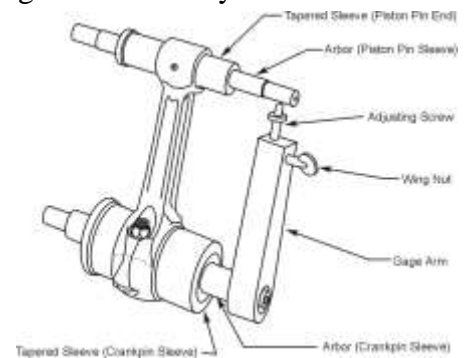
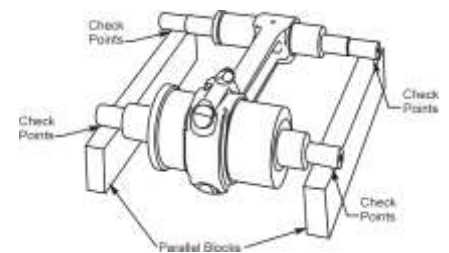

Figure 37
Figure 38
For the parallelism check, measure the distance between arbors (Figure 37). For exact parallelism or alignment, the distances measured on both sides are to be the same. For the squareness check, use a feeler gage to measure the clearance at the four check points where the arbors rest on the parallel blocks (Figure 38). Compare the clearance between each arbor and the parallel blocks against the values in the latest revision of the *Service Table of Limits - SSP-1776*. If out of tolerance, replace the connecting rods and examine the crankshaft to make sure the crankshaft is not damaged.
- B. Insert the tapered sleeves (Figure 37) of the Connecting Rod Parallelism and Squareness Gage P/N 64530 in the bearing holes in the connecting rod.
- D. Install the gage arm on the arbor as shown in Figure 37.
- L. Put the parallel blocks (Figure 38) of the Connecting Rod Parallelism and Squareness Gage on the surface plate.
- N. For the squareness check, use a feeler gage to measure the clearance at the four check points where the arbors rest on the parallel blocks (Figure 38). Record the measurement in the Connecting Rod Inspection Checklist for TEO-540-A1A Engines earlier in this chapter